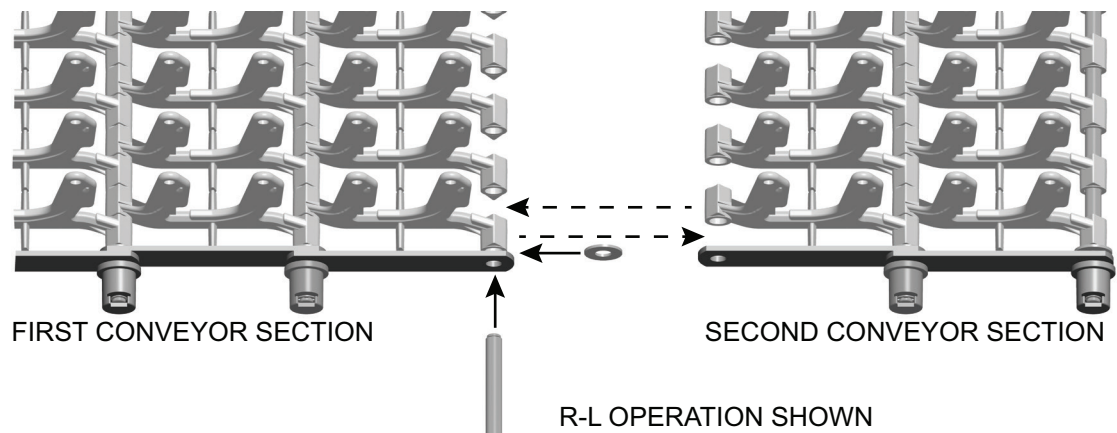

Fig. 41
- Remove the conveyor roller from one end of the last conveyor rod on the first section. Then pull the conveyor rod out and save the roller and washers for re-assembly. To join the sections, thread the rod back through the side bars and washer and then through the flight links, alternating the links from the first and second sections, and then through the washer and side bars on the opposite side. Complete the assembly by attaching the conveyor roller with a new retaining ring (Figs. 41 & 42). Spin the roller to ensure that the retaining ring has been secured to the conveyor rod. Always use a new retaining ring to secure a tight grip on the conveyor rod. Repeat this step for joining each succeeding conveyor section.